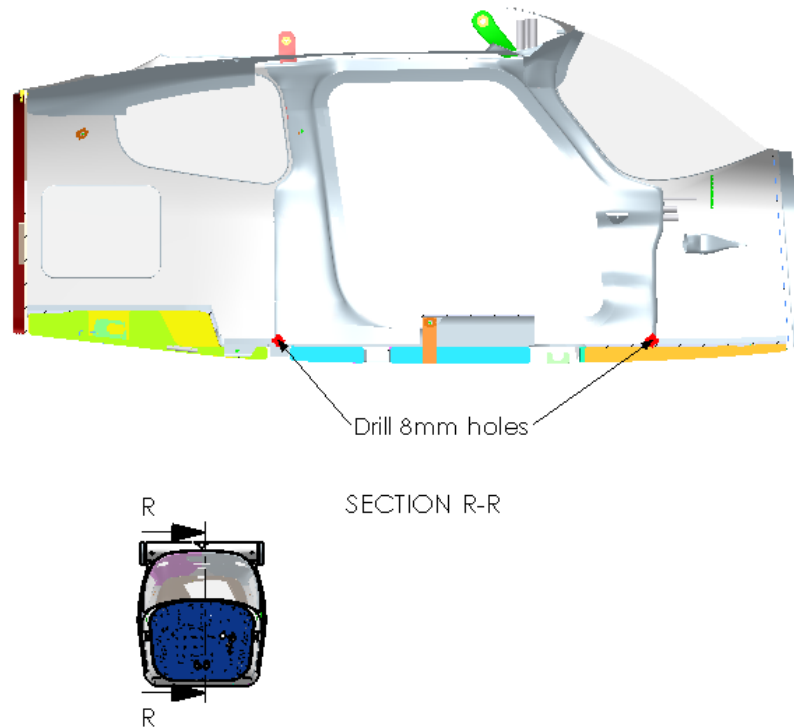
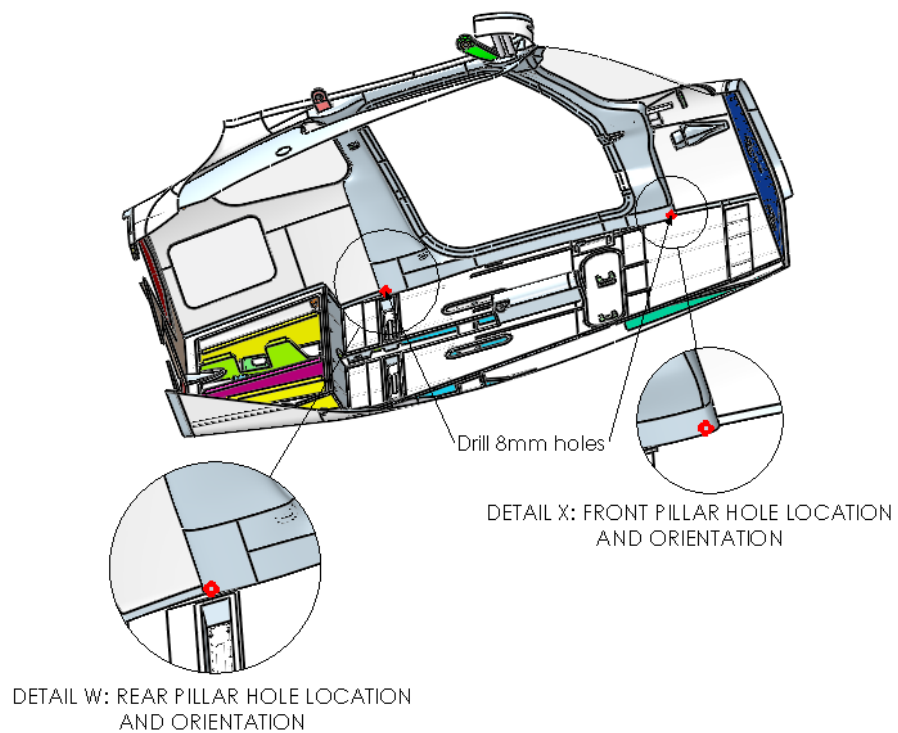

Figure 10: Pillar drain locations
Figure 11: Detailed pillar hole location and orientation
- Mark the drill location at the lowest point of the pillars as indicated in Figure 10 and Figure 11. Water must be allowed to drain from the base of the pillar onto the aircraft floor.